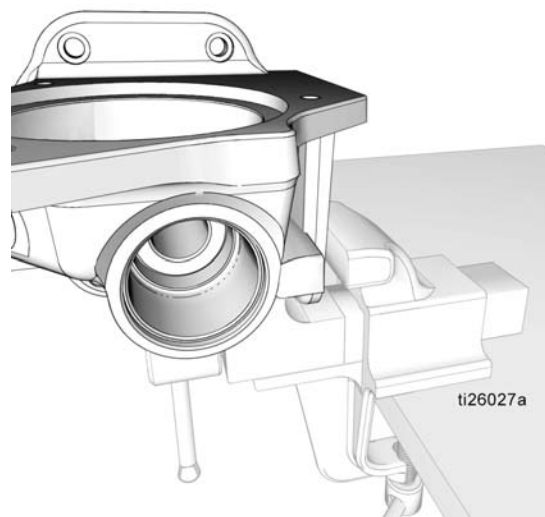

FIG. 40
- 4. Reposition the pump base (1) in the vise as shown in FIG. 40.